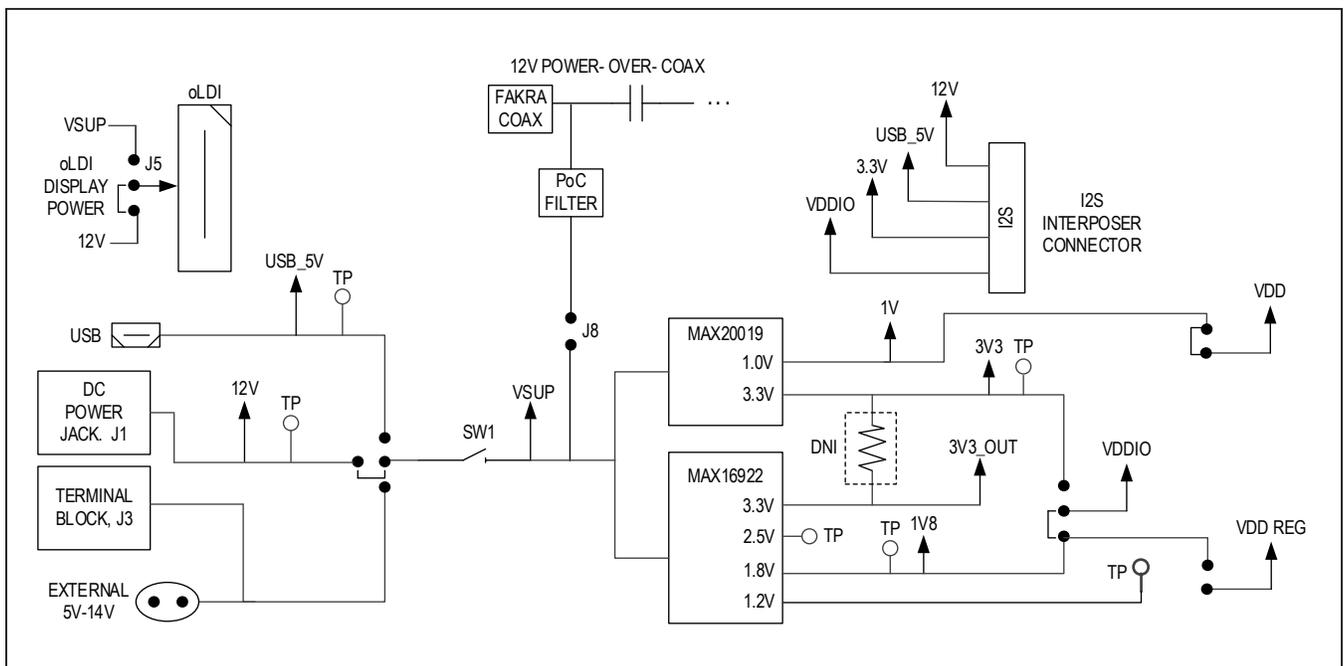

Figure 4. Deserializer Evaluation Board Power Block Diagram
- 5) Connect the +12V wall DC power supply into J1. See Figure 4 for power supply details.